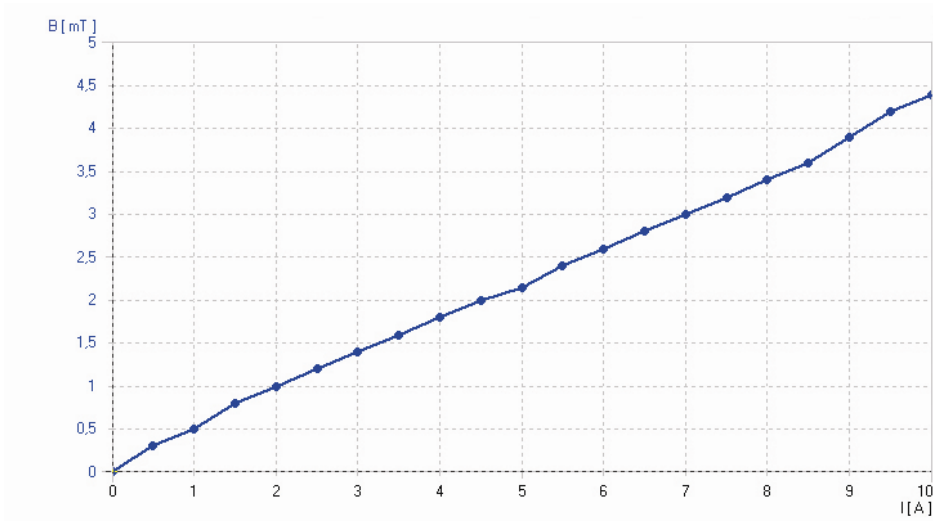

Fig. 2: Magnetic field against current
- Increase the current in the field coil from 0 to 10 A in steps of 0.5 A and record the corresponding flux density (Fig. 2).